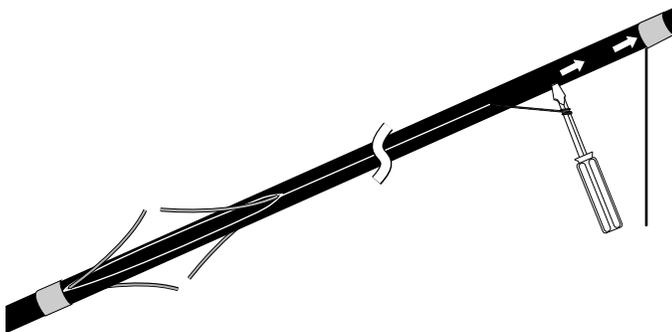

Figure 30
7.9 Using the shaft of a screwdriver as a handle, pull one rip cord at a time through the sheath to the opposite wrap of tape (Figure 30).